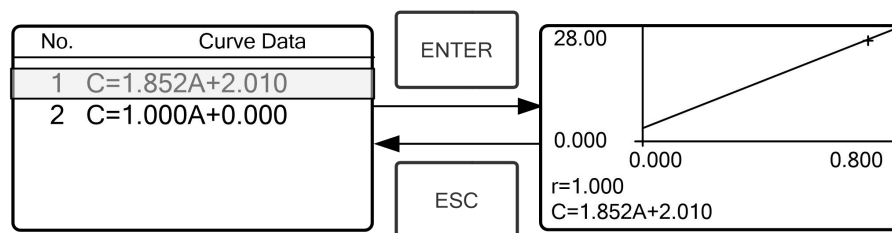

Fig. 4-16
- ★ Move the cursor on the equation that you need and press to confirm. Then the corresponding curve will display on the screen. (Fig. 4-16)